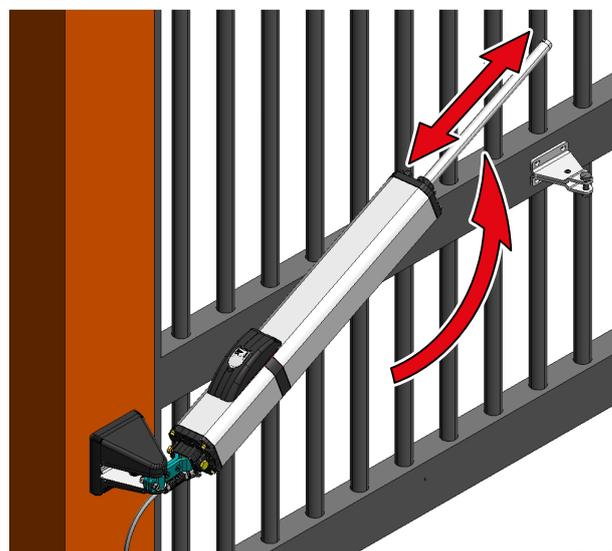

Fig.27
6. Supply the operator with power and move the stem repeatedly, in and out, for all its stroke, until reaching a smooth movement (Fig. 27).